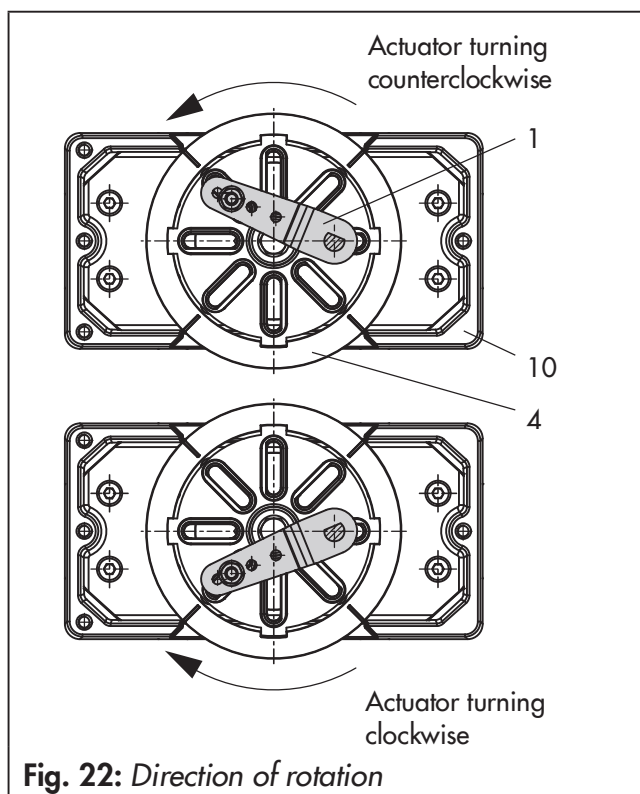

Fig. 22: Direction of rotation
- Place coupling wheel (4) with flat side facing the actuator on the follower clamp (3). Refer to Fig. 22 to align slot so that it matches the direction of rotation when the valve is in its closed position.
- Fasten the coupling wheel (4) and follower clamp (3) tightly onto the actuator shaft using screw (4.1) and disk spring (4.2).
- Fasten the bottom pair of brackets (10.1) with the bends pointing either facing to the inside or to the outside (depending on the actuator size) onto the actuator housing. Position the top pair of brackets (10) and fasten.
- Mount connecting plate (6) or pressure gauge bracket (7) with pressure gauges on the positioner, making sure the two seals are seated properly. Double-acting springless rotary actuators require the use of a reversing amplifier on the connection side of the positioner housing (see section 5.9).
- Unscrew the standard follower pin (2) from the positioner's **M** lever (1). Use the metal follower pin (\varnothing 5 mm) included in the mounting kit and screw tight into the hole for pin position **90°**.
- Place positioner on the top bracket (10) and fasten tight. Taking the actuator's direction of rotation into account, adjust lever (1) so that it engages in the slot of the coupling wheel (4) with its follower pin (Fig. 22). It must be guaranteed that the lever (1) is parallel to the long side of the positioner when the actuator is at half its angle of rotation.
- For **SAMSON Type 3278 and VETEC S160 Rotary Actuators**, fasten the adapter (5) onto the free end of the shaft and for **VETEC R Actuator**, place on the adapter (5.1). For **Type 3278, VETEC S160 and VETEC R Actuators**, place on the adapter (3). or **VDI/VDE version**, only use the adapter when it is required due to the actuator size.
- Fasten coupling wheel (4) on the slotted actuator shaft or adapter (3) using screw (4.1) and disk spring (4.2).
- Unscrew the standard follower pin (2) from the positioner's M lever (1). Attach the follower pin (Ø5 mm) included in the mounting kit to pin position 90°.
- Mount connecting plate (6) for required G ¼ connecting thread or pressure gauge bracket (7) with pressure gauges on the positioner, making sure the two seals (6.1) are seated properly. Double-acting springless rotary actuators require the use of a reversing amplifier on the connection side of the positioner housing (see section 5.9).
- Place positioner on housing (10) and screw it tight. Taking the actuator's direction of rotation into account, adjust lever (1) so that it engages in the correct slot with its follower pin (Fig. 22).